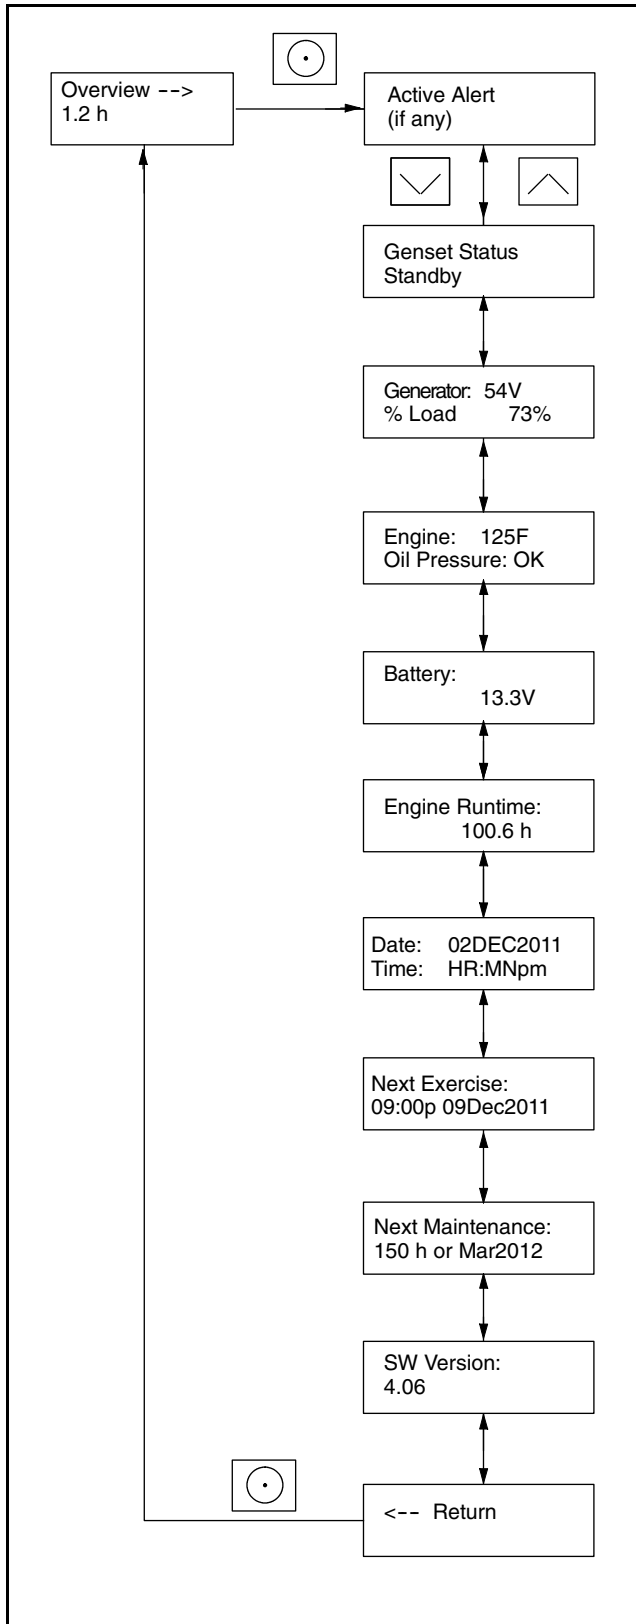

Figure 3-10 Overview Menu
3. Press the Select button to enter the genset system displays. See Figure 3-10.